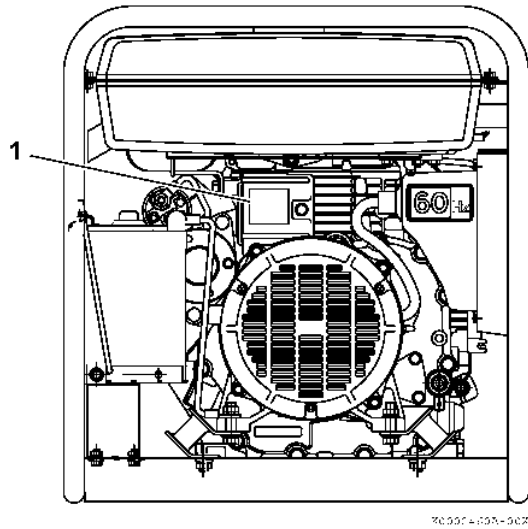
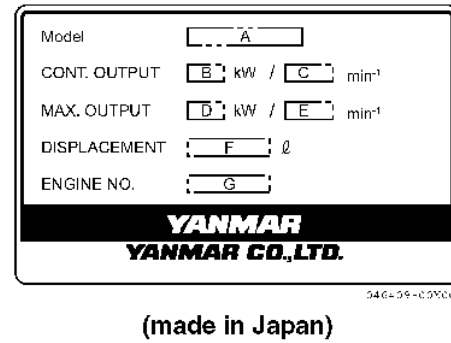

Figure 14
Figure 15
The engine nameplate (Figure 15) is located on the cooling shroud on the PTO side of engine above the starter (Figure 14, (1)).